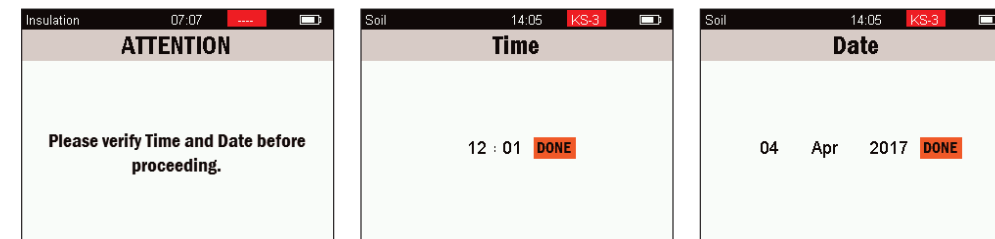

Figure 12 Verify time and date
- When the TEMPOS controller is first turned on, a message requesting time and date verification appears (Figure 12).